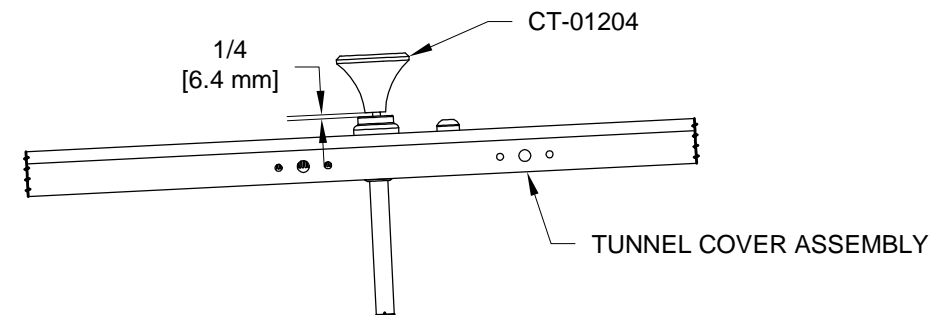

FIGURE 1: RIGGING THE FUEL SHUTOFF CABLE
Step 6: With the fuel shut-off valve fully open (aligned with the valve body) and the CT-01204 handle extended as shown in Figure 1, tighten the lower set screw in the CT-00100.